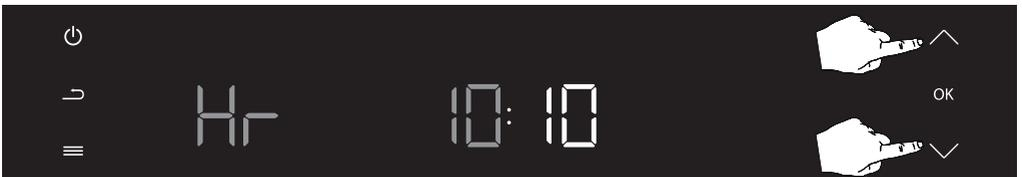
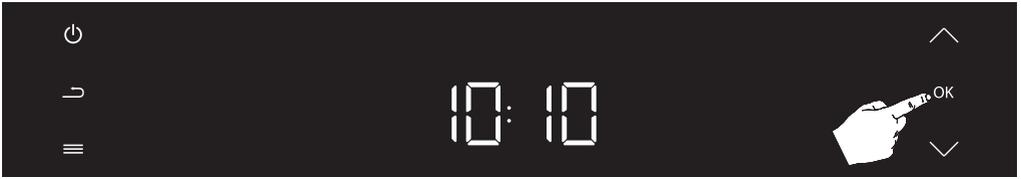

Figure 10
Figure 11
The minute is set by pressing up (▲) and down (▼) buttons. (see figure 10)
The minute is set by pressing up (⬆) and down (⬇) buttons. (see figure 10) After the minute setting, the time setting is completed by pressing the confirmation button (OK). (see figure 11)